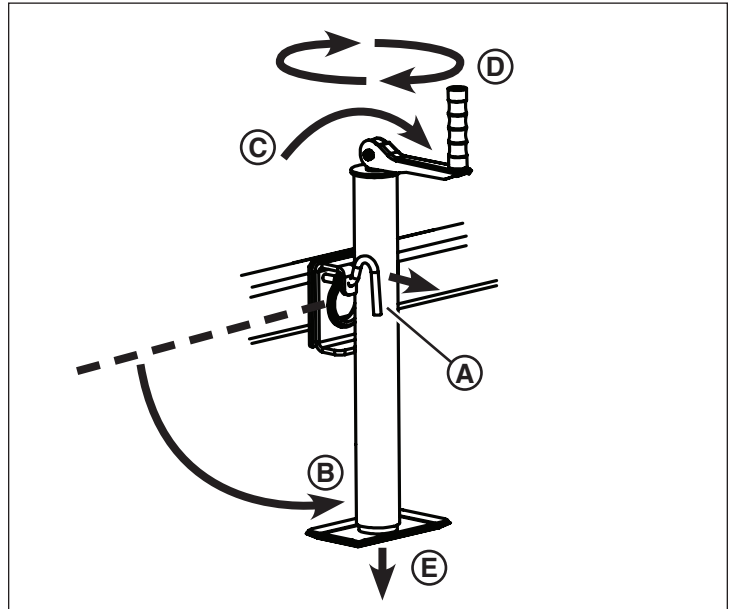

Figure 9
- Pull the lock lever (A, Figure 9) and rotate the tongue jack 90° so that the pad of the jack faces the ground (B), and release the lock lever. Make sure the lock lever engages the locking hole and is secure. Unfold the crank